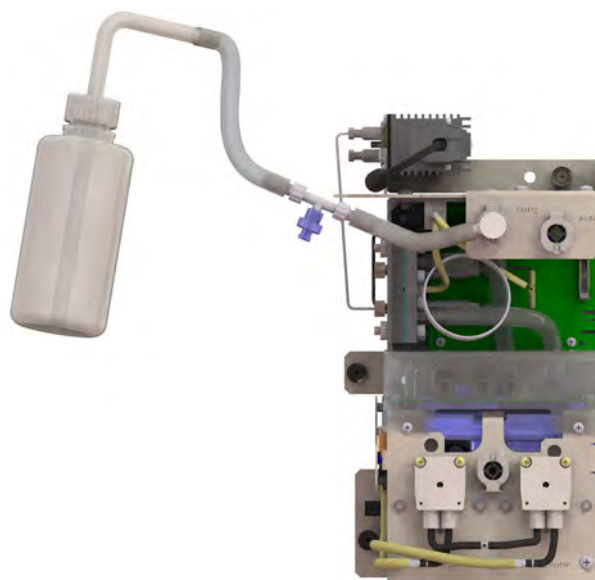

Figure 11: Filling the DI Water Reservoir
5. Insert the elbow-fitting end of the filling fixture into the *Prime* outlet (Figure 11).